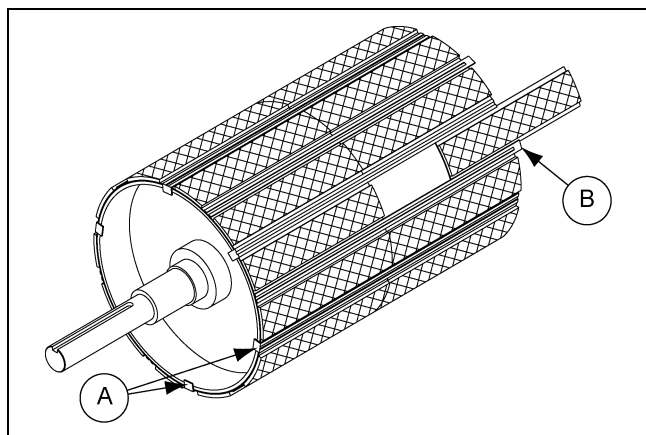
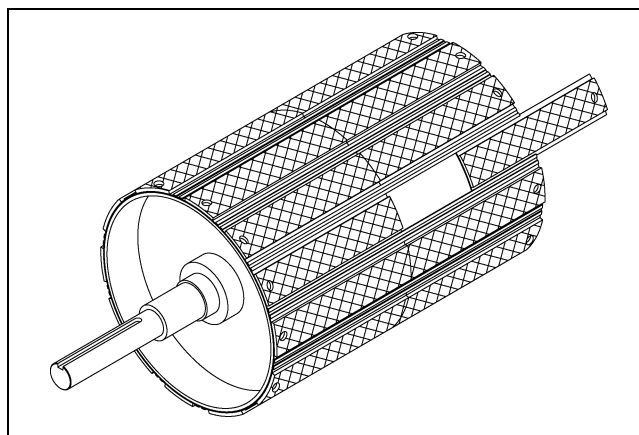

Figure 7A Head Pulley with Tabbed Retainers
Figure 7B Head Pulley Bolted Lagging
The lagging acts as a barrier between the belt and the pulley to soften the interaction and extend belt life. It is possible to remove the lagging from the head pulley, and should be replaced before it wears down to the top of the retainer or the bottom of the grooves. Replacement can be done in two (2) ways. The first way is to remove the pulley from the conveyor assembly. On certain models, there are side doors on the head assembly to allow access to the pulley. To remove the lagging, bend the tabs on the side of the pulley up and then slide the lagging out from under the retainers. (See Figure 7A.) On some pulleys, the lagging is bolted to the pulley. (See Figure 7B.)